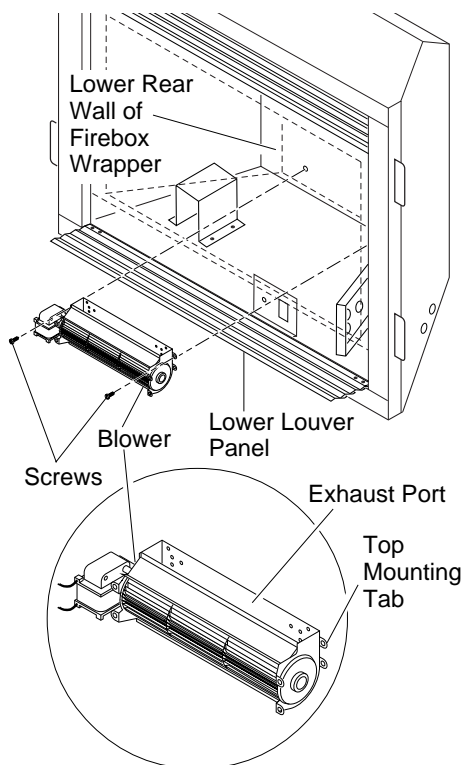

Figure 30 - Mounting Blower to Firebox
**IMPORTANT:** For clarity, gas valve assembly and grate/burner assembly are not shown in Figures 30 through 33, page 17. They will, however, be in your fireplace when you are installing the blower. Also for clarity the firebox is shown with dotted lines.
2. Place the blower against the lower rear wall of firebox outer wrapper with the exhaust port directed upward. Align the holes in the top mounting tabs of blower with holes in wall of wrapper (see Figure 30, page 17). Using the two screws provided, mount blower and tighten screws securely.